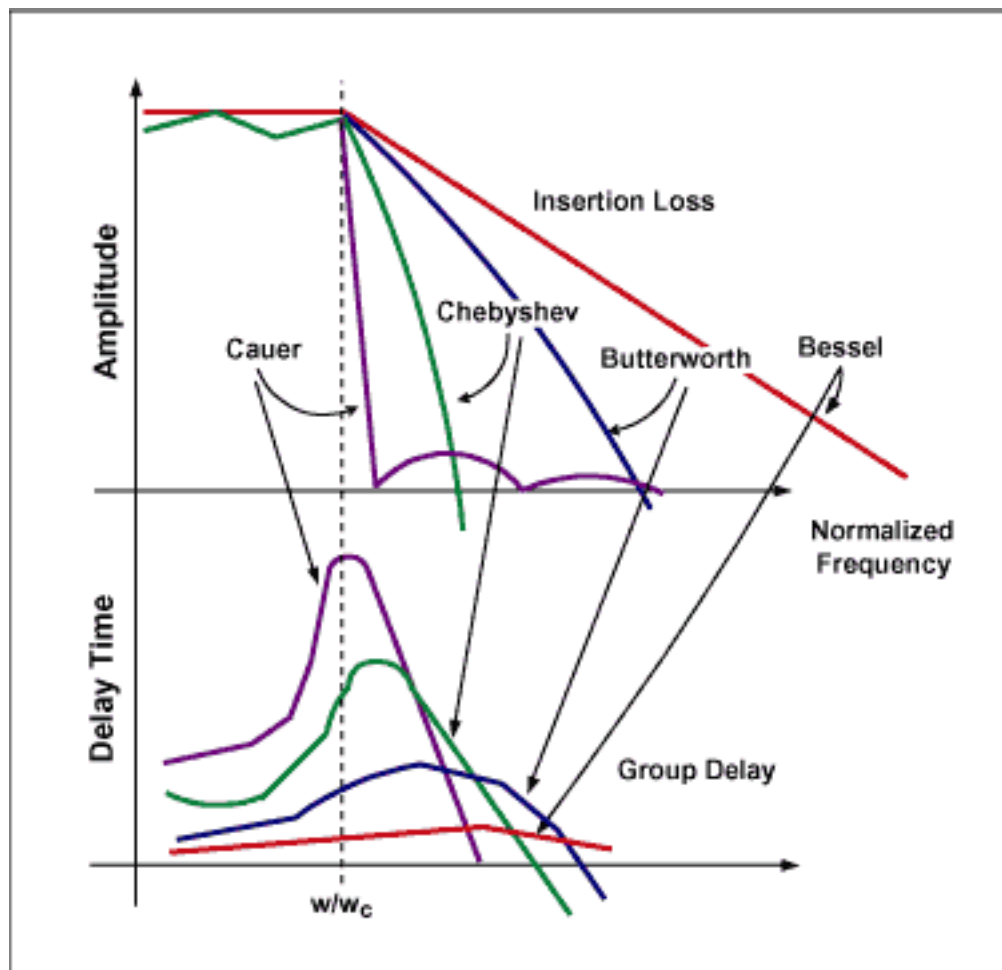

Figure 1. Amplitude and group-delay vs. frequency characteristic of the various filters.
Whether used for anti-aliasing or reconstruction, video filters have a low-pass characteristic to pass the video frame rate. Such filters are categorized by their amplitude-vs-frequency characteristic, or the name of the person whose polynomial describes it, e.g.; Bessel, Butterworth, Chebyshev, or Cauer. Figure 1 is a collection of these characteristics, normalized to a one-radian bandwidth ( $\omega_c$ ). Normally you would use the most selective one, with the minimum number of poles, but video requires selectivity and phase linearity, which limits the choice.
Because it's so important, we need a way to specify the property of phase linearity, and the best indicator is the group or envelope delay (GD), shown as the second set of curves in Figure 1. What's group delay? It's defined as the derivative of phase with respect to frequency, but practically, it's the time delay as a function of frequency. A flat group delay curve indicates that
In Figure 1, you'll notice some filters have a peak in the Group-Delay curves near the cutoff frequency, ( $\omega/\omega_c=1$ ). These are called "phase ears" because they're due to the steep phase change at the cutoff frequency. To get an idea of the scale of things, a 3 pole, 6MHz Butterworth filter has a group-delay variation of 20-25nsec, about 1/3rd of a pixel in broadcast video. Increasing the number of poles, or using a more-selective filter, will increase this. Delay equalizers can correct it, but require more op-amps, and increase the complexity. There are exotic types of filters, and we should mention them[2].